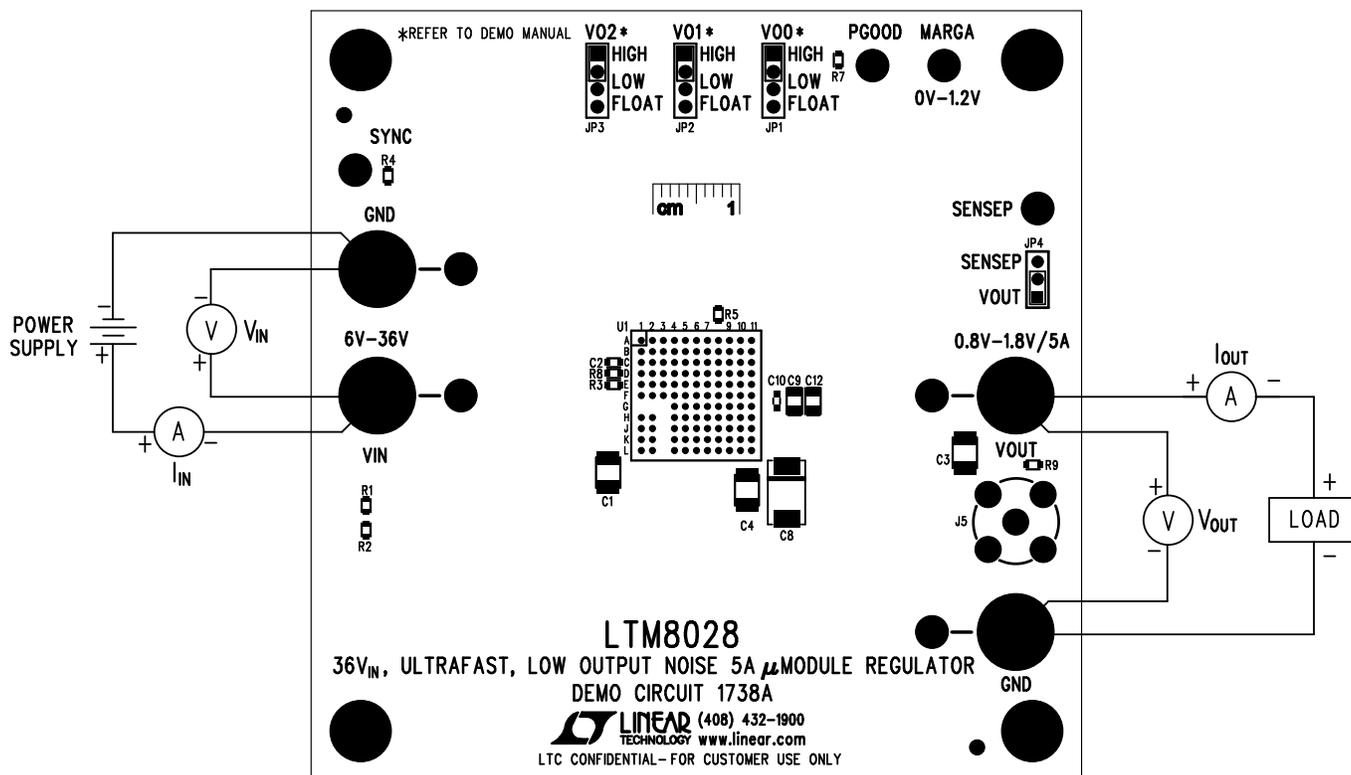

Figure 2. Proper Measurement Equipment Setup
Demonstration circuit 1738A is an easy way to evaluate the performance of the LTM8028. Refer to Figure 2 for proper measurement equipment setup and follow the procedure below:
2. With power off, connect the input power supply, load and meters, as shown in Figure 2. Preset the V_{IN} supply between 6V to 36V.